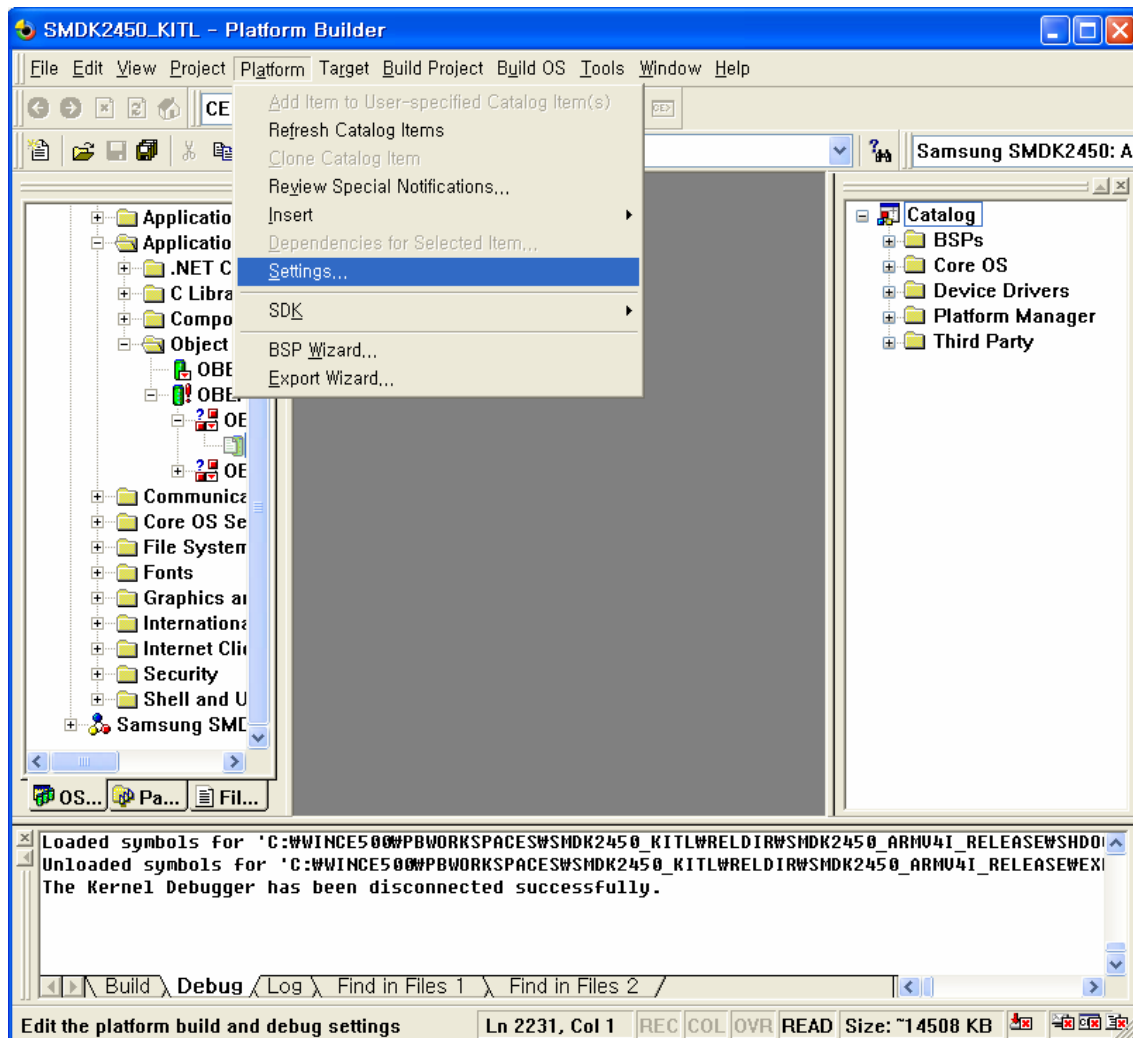

Figure 6-25 Platform Settings 1
1. To enable KITL, on the **Platform** menu in the platform builder window, click **Settings...** as shown in figure 6-25.